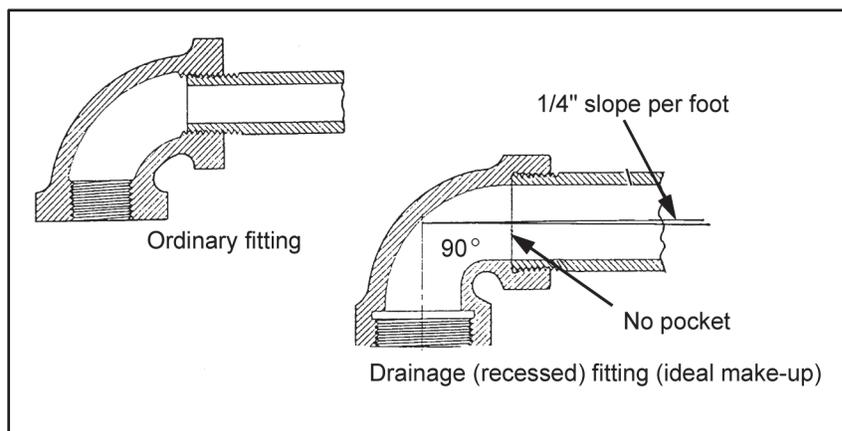

Figure 6-20. Ordinary and drainage pipe fittings
6-48. Fittings (figure 6-20) for this pipe are classified as either ordinary (standard) or drainage (recessed).
- **Drainage (recessed).** Drainage fittings are used in waste systems. They have threads at a slight angle so that horizontal drainage pipe will slope about $\frac{1}{4}$ inch per foot (figure 6-20). They range in size from 1 $\frac{1}{4}$ to 12 inches.